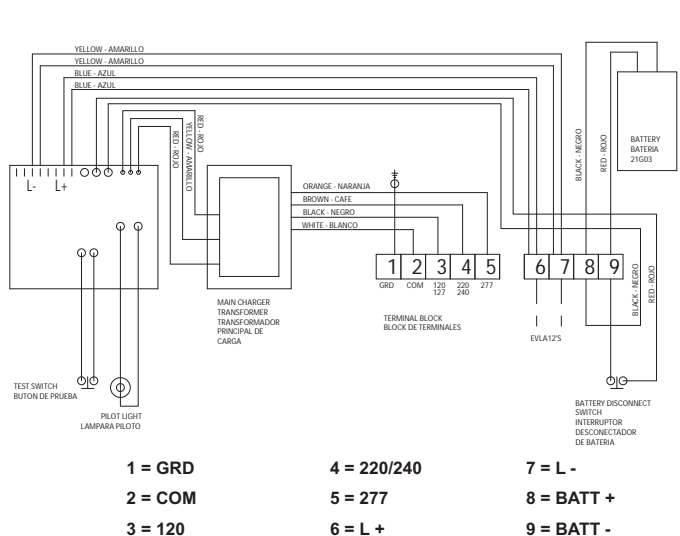

Figure 3. Wiring Diagram
- Connect EVLA12 lighting fixture(s) supply leads to terminals L+ (#6) and L- (#7). See figures 3 and 4.
3. Disconnect battery leads from terminals Batt+ (#8) and Batt- (#9) on terminal block. See Figure 3.